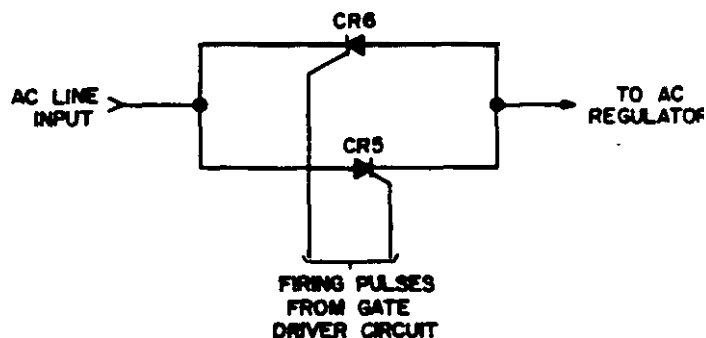

Figure 5-1
5.03 Static Switch. The static switch, shown in simplified form in Figure 5-1, consists basically of two silicon controlled rectifiers (SCR's) connected in inverse parallel configuration. These SCR's are triggered into conduction by firing pulses from the gate driver circuits so conduction occurs during alternate half cycles of the AC